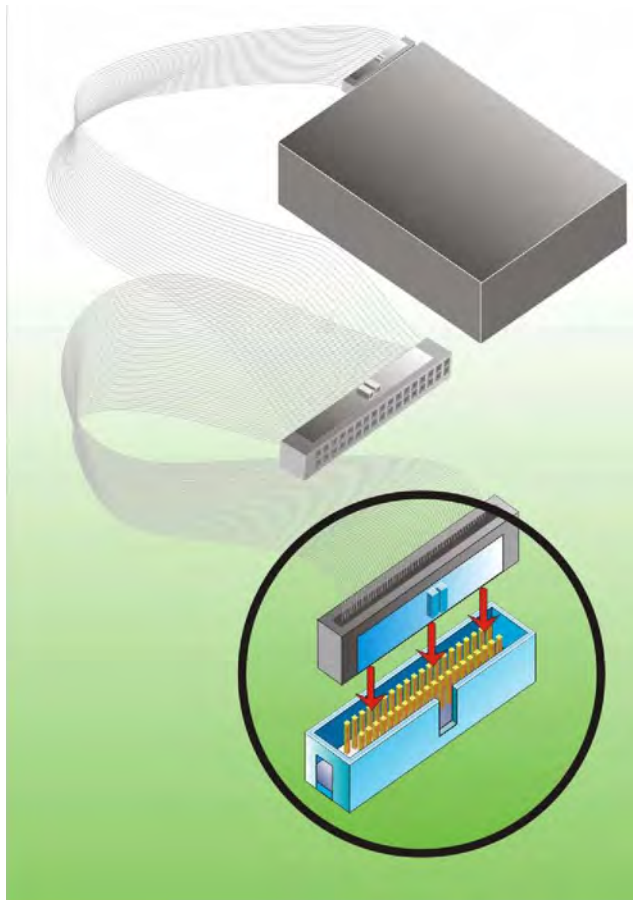

Figure 5-9: IDE Cable Connection
Step 2: **Insert the connector.** Connect the IDE cable connector to the onboard connector. See **Figure 5-9**. A key on the front of the cable connector ensures it can only be inserted in one direction.